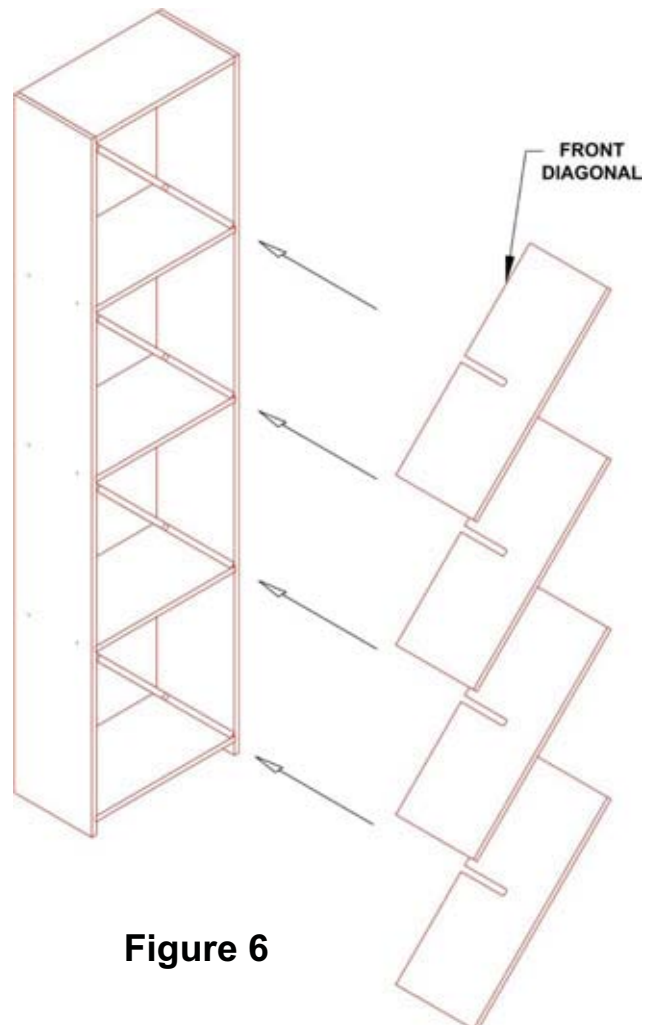

Figure 6
7. Insert the remaining panels into the diamond cube. Angle the panel from lower left to upper right, fitting the slot in the center of the panel over the top of the slot in the back panel (**Figure 6**). (**Be sure to carefully align the edges of the inside panels so that they are flush with both the front and back edges of the side, top and bottom panels. You may use a soft-faced hammer here to ensure a proper fit.*)